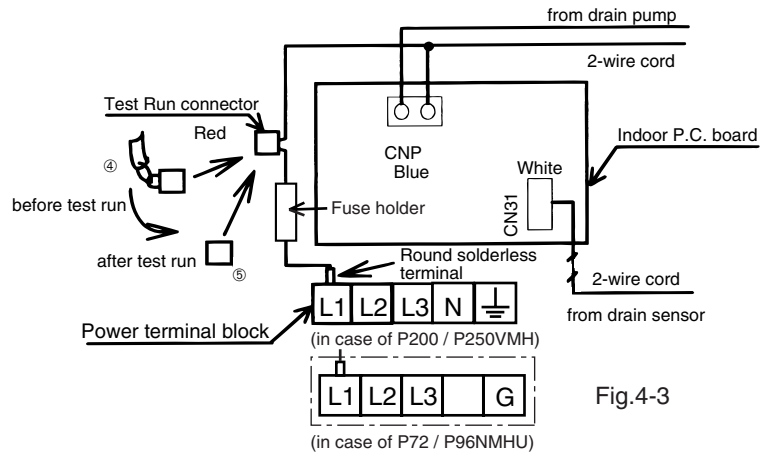

Fig.4-3
**2. Connecting the pump wires to the control box of the indoor unit (Fig. 4-3)**
- a) Connect the blue connector of the 2-wire cord to CNP on the indoor P.C. board inside the control box, and fix the fuse holder to the specified position (Photo 4-4) inside the control box using the PPT screw ⑩. The round solderless terminal must be connected to [L1] of the power terminal block.